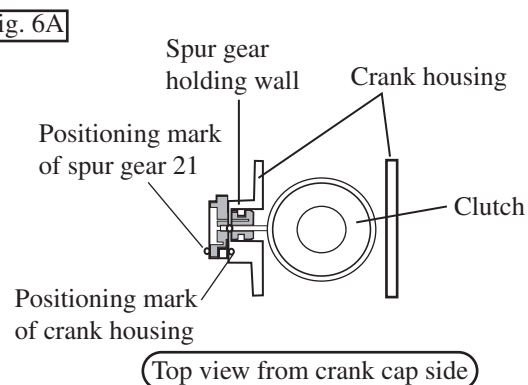

Fig. 6A
(2) And then, apply the shaft portion of spur gear 21 to spur gear holding wall. So, the positioning mark of spur gear 21 overlaps just on the positioning mark of crank housing. See Fig. 6A.